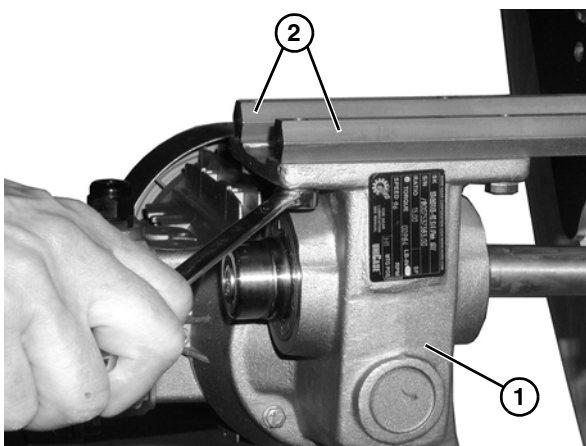

Figure 61
2. Remove the gearmotor assembly (Figure 61, item 1) from the gearhead mounting posts (Figure 61, item 2).